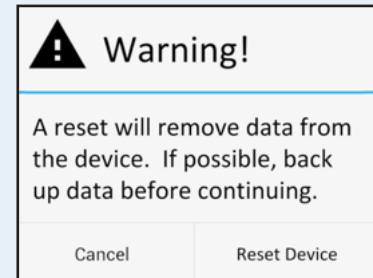

Figure 7-2:
4. A warning box will appear (Figure 7-2). Press **CANCEL** to exit the message and return to the **Administrator Login** screen.